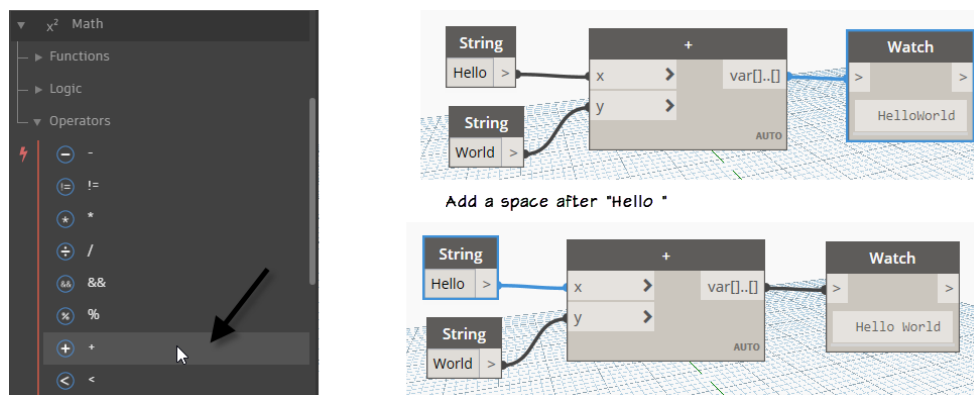

Figure 14
8. Wire “Hello” into **x** and “World” into **y**. Then wire the output of + to the input of the **Watch** node (see Figure 14).